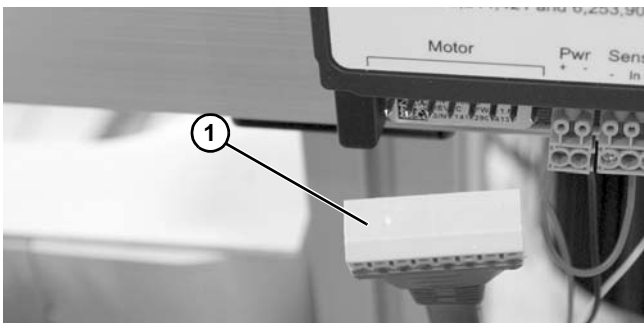

Figure 72
4. Install motor connector (Figure 72, item 1) to drive control.